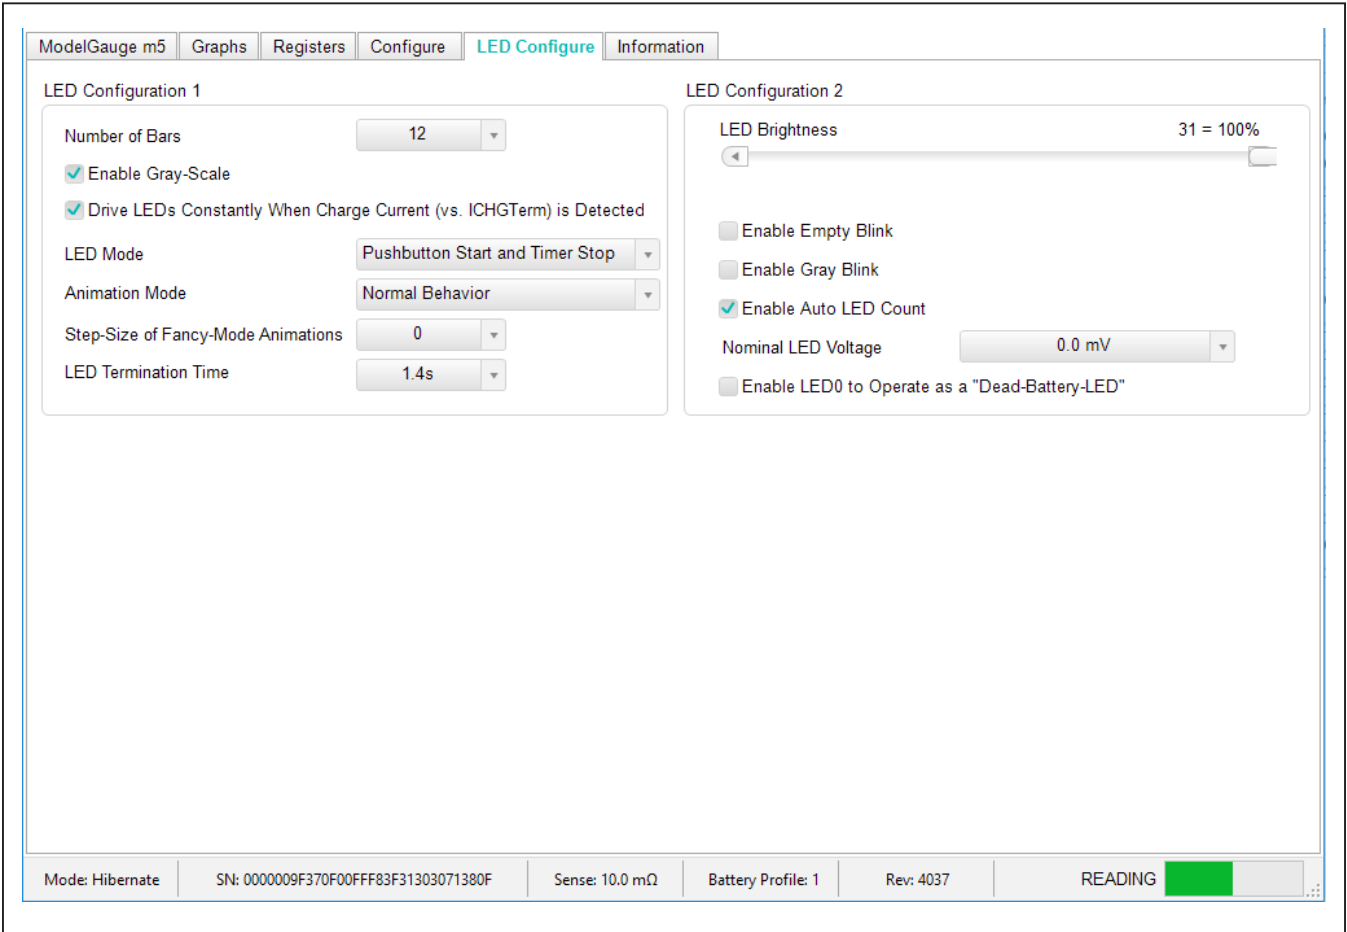

Figure 9. LED Configuration Panel
LED operation can be customized through the LED tab, as shown in Figure 9. Functionalities include changing the number of LEDs, changing LED brightness, and choosing LED modes. There are four operation modes to choose from: (1) The “Pushbutton Start and Timer Stop” option is the default setup, where the LED lights up